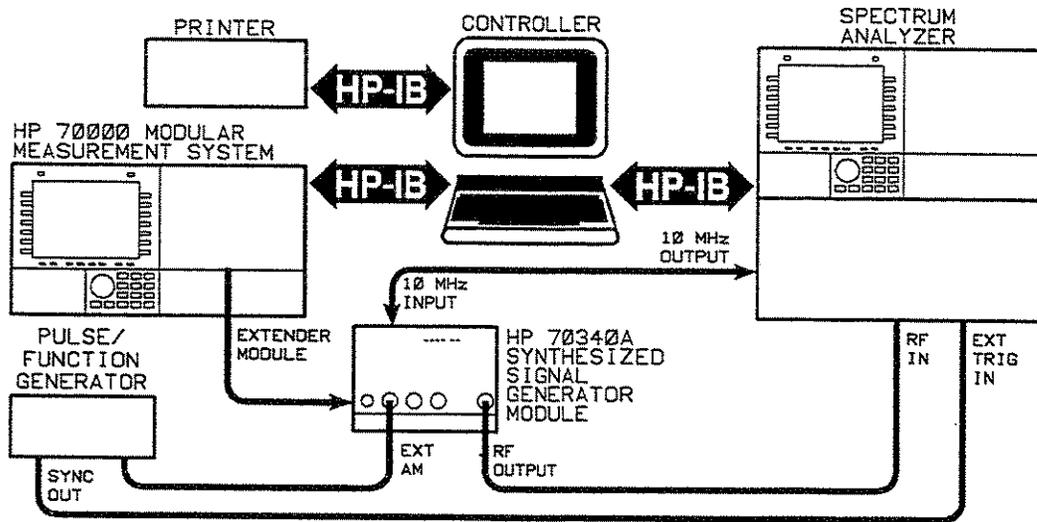

Figure 3-8. AM Gain Calibration Equipment Setup
1. Set up the equipment as shown in Figure 3-8.